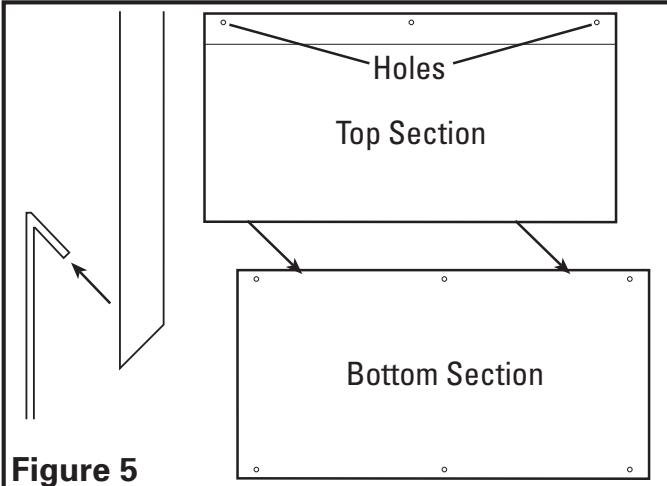

Figure 5
6. Lift the top section into place by hooking the flange of the bottom section into the channel of the top section and center the top section in place. Once the top section is exactly in place, mark the hole locations (**Figure 5**).